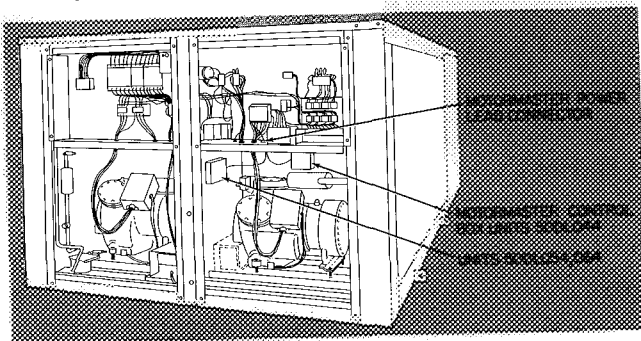

Fig. 21 — Motormaster® Control Location
1. **Locate Motormaster Control** as shown in Fig. 21, using the mounting template provided in the 32LT Installation Instructions.